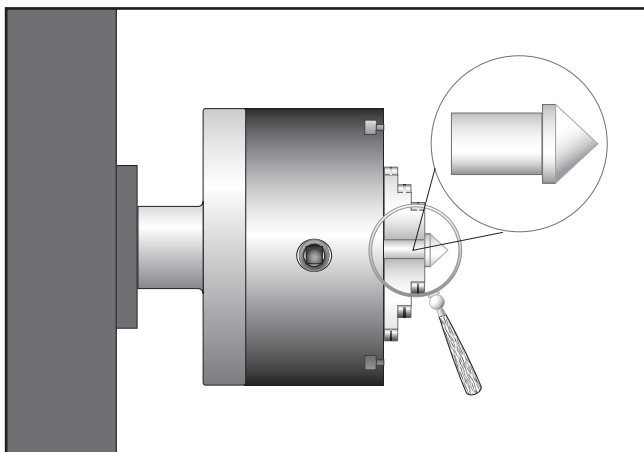

Figure 40. Fabricating the dead center.
3. Make a dead center by turning a shoulder on a similar piece of round bar stock, then flip the piece over in the chuck and turn a 60° point (see **Figure 40**).